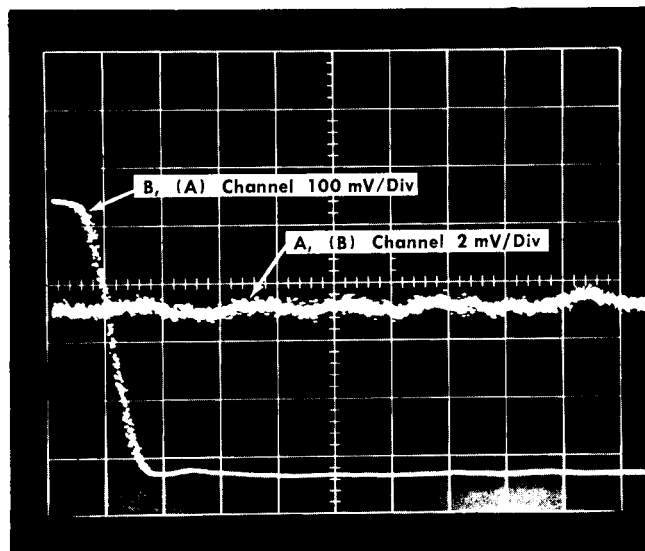

Fig. 7-7. Typical display used to check interchannel crosstalk.
d. Set the Time Position control of the Type 3T77A and the A and B POSITION controls on the Type 3S1 to obtain a display showing the input signal on Channel B (at 100 mVolts/div) and the interchannel crosstalk signal on the terminated Channel A (at 2 mVolts/div). See Fig. 7-7.